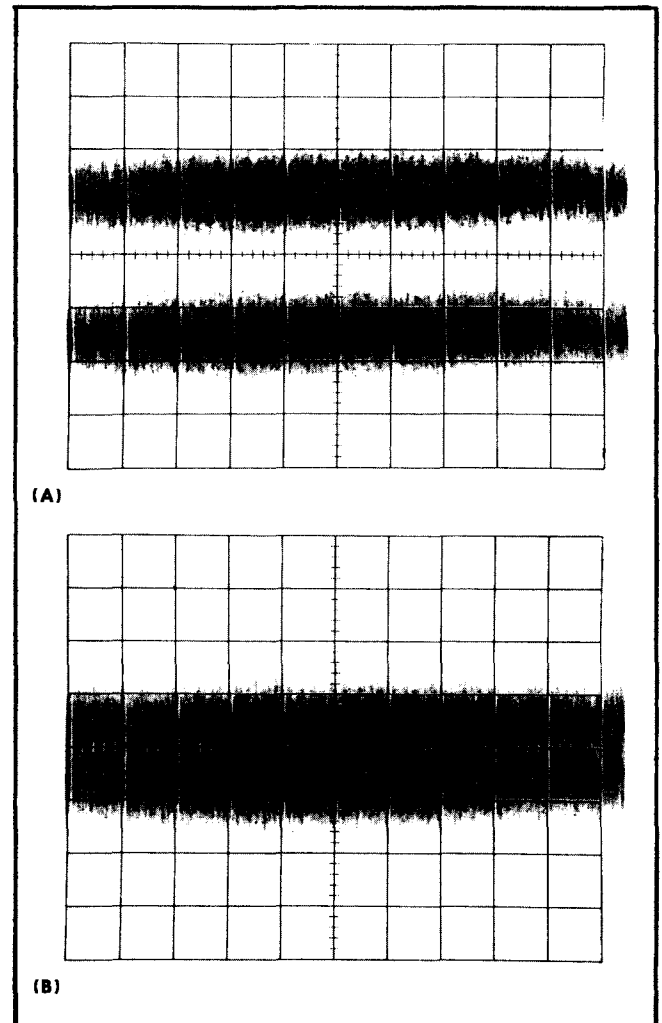

Fig. 5-7. Typical display showing (A) two noise bands and (B) merging noise bands.
g. Turn the Variable Attenuator counterclockwise until the darker band between the two noise bands just disappears (see Fig. 5-7).